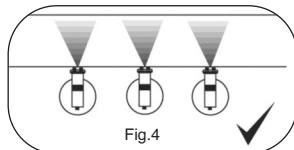
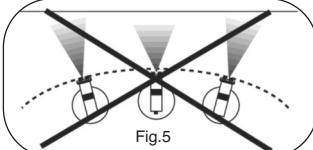

Fig.4
Fig.5
1. To obtain the best results always keep your spray gun level and spray equally from side to side or up or down from the surface (Fig.4). Avoid spraying at an angle as this will lead to runs on the surface (Fig.5).
2. Let your arm control the left to right movement rather than your wrist as this will aid even paint distribution over the whole area (Fig.4).